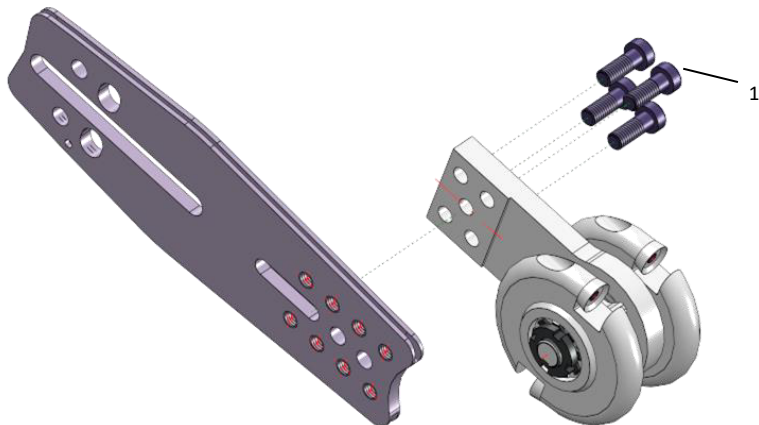

Fig. 1. Mounting the trough cutter ETH-C-Mini
- Mount the trough cutter with the 4 cap screws (1- Fig 1). For most saws, the position of the two middle holes is suitable. If the chain is too short or too long when tensioning it, use one of the other positions.